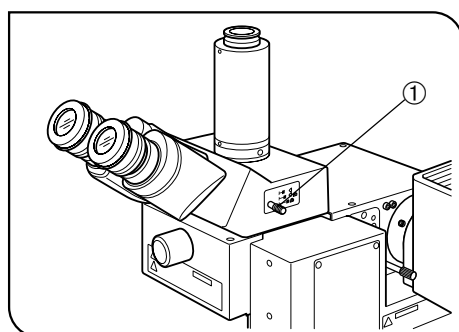

Fig. 16
**5 Selecting the Light Path of Trinocular Observation Tube (Fig. 16)**